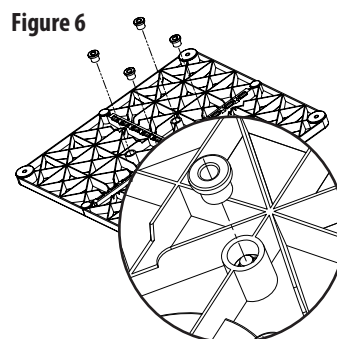

Figure 6
3. Press the center nut covers into center holes indicated. FIGURE 6